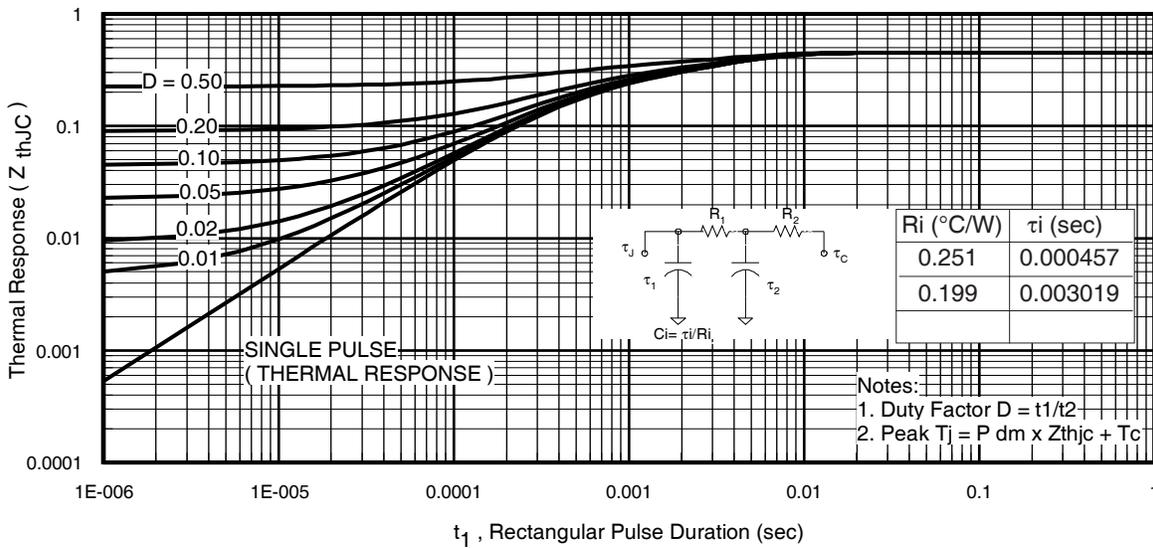
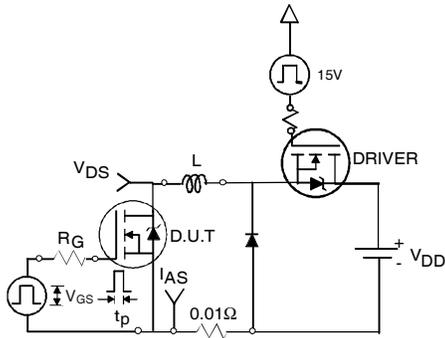

Fig 11. Maximum Effective Transient Thermal Impedance, Junction-to-Case
Fig 12a. Unclamped Inductive Test Circuit
- ① Repetitive rating; pulse width limited by max. junction temperature. (See fig. 11).
- ② Limited by T_{Jmax}, starting T_J = 25°C, L = 0.11mH, R_G = 25Ω, I_{AS} = 75A, V_{GS} = 10V. Part not recommended for use above this value.
- ③ I_{SD} ≤ 75A, di/dt ≤ 340A/μs, V_{DD} ≤ V_{(BR)DSS}, T_J ≤ 175°C.
- ④ Pulse width ≤ 1.0ms; duty cycle ≤ 2%.
- ⑤ C_{oss eff.} is a fixed capacitance that gives the same charging time as C_{oss} while V_{DS} is rising from 0 to 80% V_{DSS}.
- ⑥ Limited by T_{Jmax}, see Fig.12a, 12b, 15, 16 for typical repetitive avalanche performance.
- ⑦ This value determined from sample failure population. 100% tested to this value in production.
- ⑧ This is applied to D²Pak, when mounted on 1" square PCB (FR-4 or G-10 Material). For recommended footprint and soldering techniques refer to application note #AN-994.
- ⑨ R_{θj} is measured at T_J of approximately 90°C.
3. Equation below based on circuit and waveforms shown in Figures 12a, 12b.
$Z_{thJC}(D, t_{av})$ = Transient thermal resistance, see figure 11)